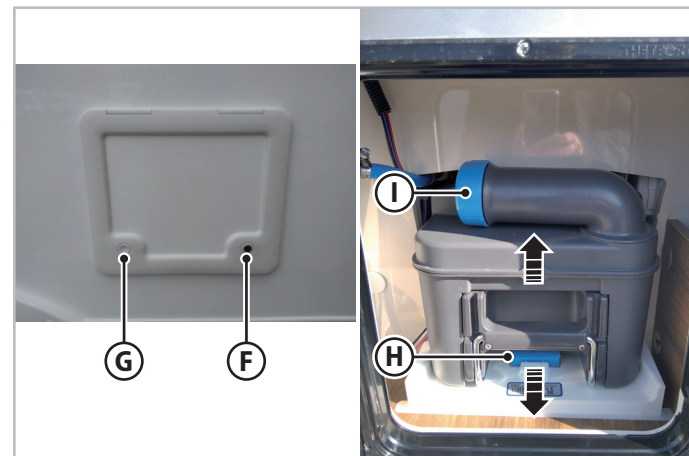

Fig. 6.45 - Emptying the cassette toilet
2. Using the key, open the lock (F - Fig.6.45), and then remove the key.
3. Press buttons G and F (Fig.6.45) and open the door.
4. Press slightly upwards on the handle (H - Fig.6.45) and remove the tank.
5. Remove the cap (I - Fig.6.45) and press the vent button to empty the tank.